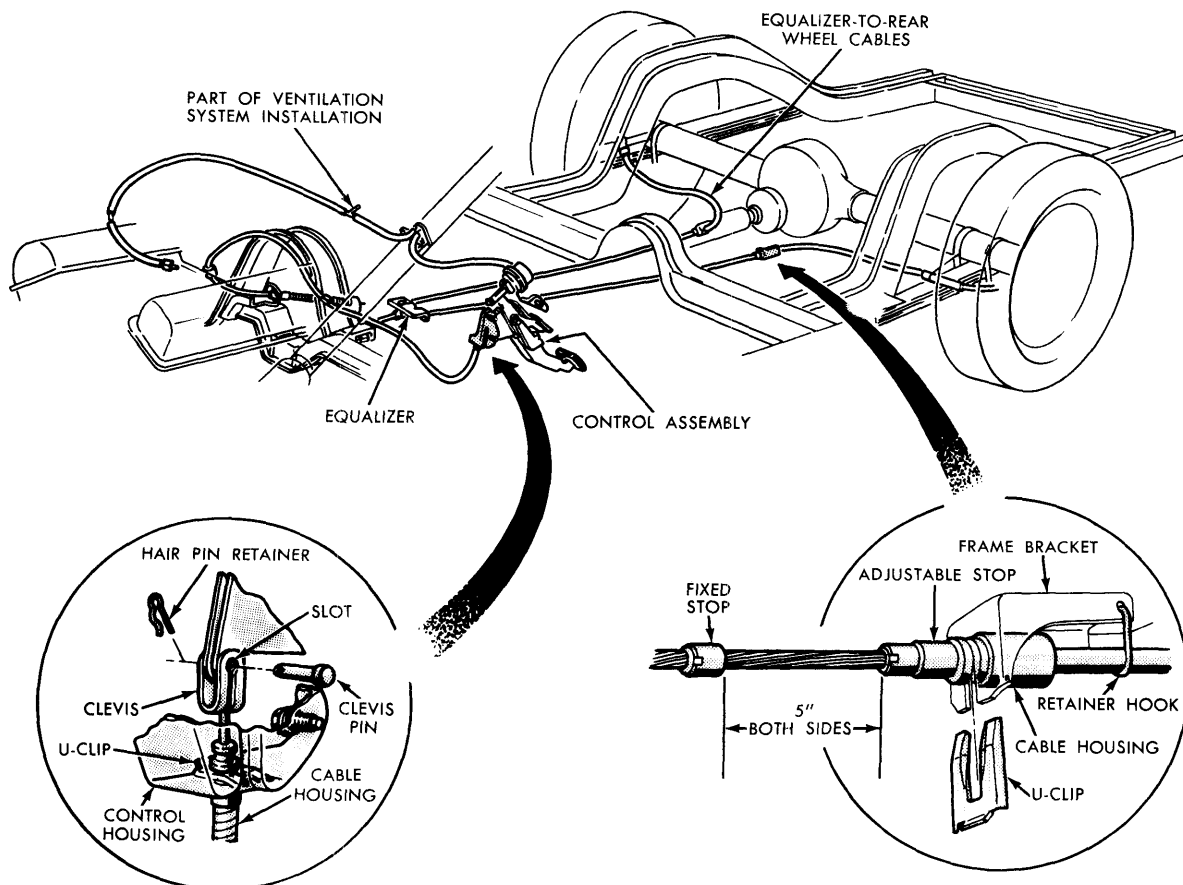

FIG. 22—Parking Brake System
5. Remove the U-clip that retains the cable housing to the parking brake control housing (Fig. 22).
1. Position the cable through the hole in the parking brake control housing. Install the clevis on the ball end of the cable and connect the clevis to the actuating arm with the clevis pin (Fig. 22). Secure the clevis pin with the hairpin retainer.
3. Position the cable through the hole in the parking brake control housing. Install the clevis on the ball end of the cable and connect the clevis to the actuating arm with the clevis pin (Fig. 22). Secure the clevis pin with the hairpin retainer.
4. Remove the U-clip that retains the cable housing to the frame bracket. Disengage the housing from the bracket and slip off the retainer hook (Fig. 22).
3. Thread the front end of the cable through the frame bracket, and engage the cable housing to the bracket. Install the U-clip and retainer hook (Fig. 22).
4. While holding the adjustable cable stop against the cable housing end, pull the cable through the housing until there is a distance of five inches between the two stops as shown in Fig. 22. Crimp the adjustable stop against the cable to hold this dimension.